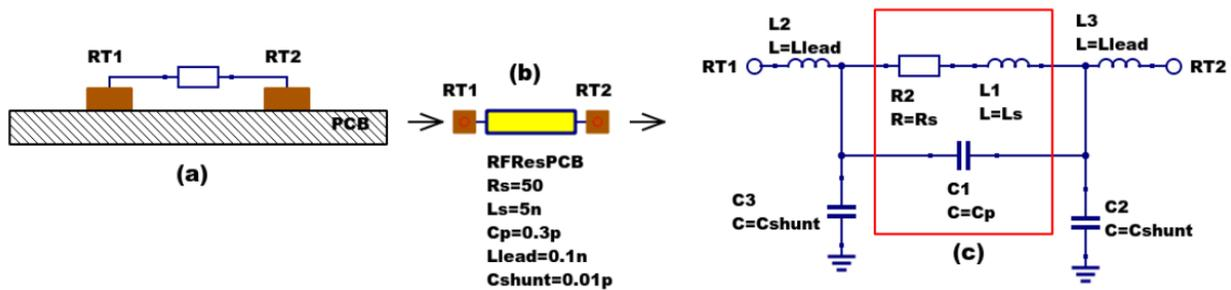

Figure 2 - PCB mounted resistor: (a) axial component mounting, (b) Qucs symbol and (c) equivalent circuit model.
The schematic symbol,  $I/V$  equation and parameters of the Qucs linear resistor model are shown in Figure 1. In contrast to this model Figure 2 illustrates the structure of a printed circuit board (PCB) mounted metal film (MF) axial RF resistor (a), its Qucs schematic symbol (b) and its equivalent circuit model (c). A thin film surface mounted (SMD) resistor can also be represented by the model shown in Figure 2 (c).
At signal frequencies where the largest dimension of an axial or SMD resistor is less than approximately 20 times the smallest signal wavelength a resistor can be modelled by a lumped passive circuit consisting of a resistor **Rs** in series with a small inductance **Ls** with the combination shunted by parasitic capacitor **Cp**. In Figure 2 **Rs** is the nominal value of resistor at its parameter extraction temperature **Tnom**, **Ls** represents the inductance associated with **Rs** where the value of **Ls** is largely determined by the trimming method employed during component manufacture to set the value of **Rs** to a specified tolerance. Similarly, capacitor **Cp** models a parasitic capacitance associated with **Rs** where the value of **Cp** is a function of the physical size of **Rs**. At RF frequencies it is important, for accurate operation, to add lead parasitic elements to the intrinsic equivalent circuit model shown within the red box draw in Figure 2. In Figure 2 **Llead** and **Cshunt** represent resistor series lead inductance and shunt capacitance to ground respectively.
A typical set of model parameters for a 51 Ω 5 % MF axial resistor are (1) **Ls = 8nH**, **Cp = 1pF**, **Llead = 1nH** and **Cshunt = 0.1pF**. Illustrated in Figure 3 is a basic S parameter test bench circuit for measuring the S parameters of an RF resistor over a frequency range 1 MHz to 1.3 GHz. This example also demonstrates how the real and imaginary parts of a resistor model impedance can be extracted from S parameter simulation data. The graphs in Figure 3 clearly demonstrate that the impedance of the typical MF RF resistor described in previous text and modelled by the equivalent circuit shown in Figure 2 is a strong function of frequency at higher frequencies in the band 1 MHz to 1.3 GHz.
Figure 8 - Qucs device model parameter extraction system applied to a nominal  $47 \Omega$  resistor represented by the subcircuit model illustrated in Figure 2 (c). Fixed model parameter values:  $R_s = R_m = 47.3 \Omega$ ,  $C_{shunt} = 0.08 \text{pF}$ ; Optimised values:  $L_s = L = 10.43 \text{nH}$ ,  $L_{lead} = LL = 1.47 \text{nH}$ ,  $C_p = C = 0.69 \text{pF}$ . To reduce simulation time the ASCO cost variance was set to  $1e-3$ . The ASCO method was set to DE/best/1/exp.
Figure 13 - Qucs device model parameter extraction system applied to a nominal 100 Ω SMD resistor represented by the subcircuit model illustrated in Figure 2 (c).
Listed below is an example Verilog-A code model for the RF resistor model introduced in Figure 2 (c). Due to the limitations of the Verilog-A language subset provided by version 2.3.4 of the "Analogue Device Model Synthesizer" (ADMS)4 inductors **Ls** and **Llead** are modelled by gyrators and capacitors with values identical to **Ls** or **Llead**.